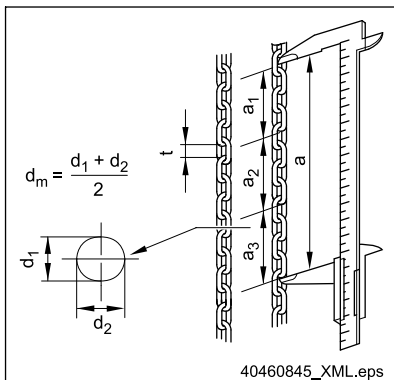

Fig. 45
- on 11 chain links  $\Rightarrow$  Fig. 45, Page 75.